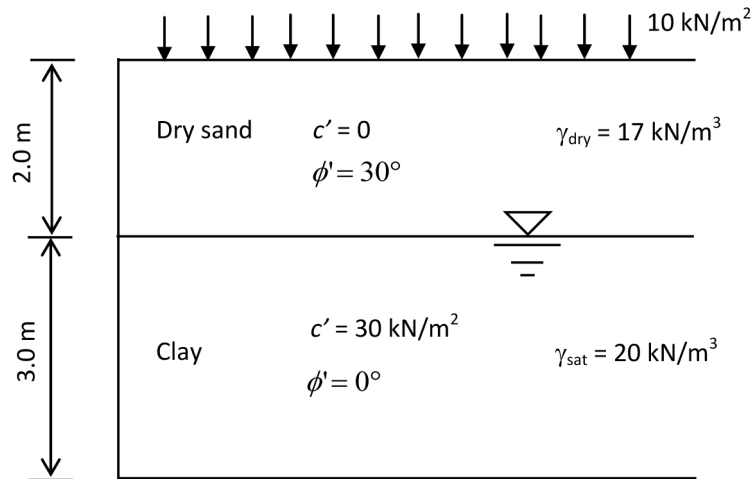

Figure Q3
- b) Details of a retaining wall are shown in Figure Q3. A surcharge pressure of 10 kN/m^2 is being carried on the surface behind the wall. Due to inadequate drainage, the water table has risen to the level indicated. The corresponding unit weights and shear strength parameters are depicted in Figure Q3. You may use the unit weight of water as 9.81 kN/m^3 .